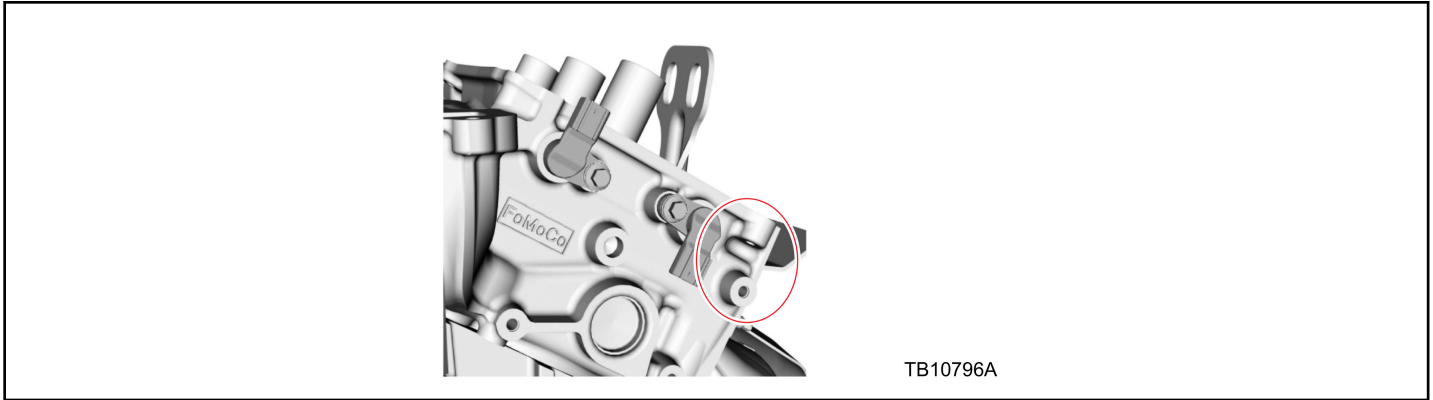

Figure 1 - Article 15-0160
15. Inspect the harness takeout for HO2S11 electrical connector C1571 for chafing or wire worn through that may have been caused by contact on the back of the cylinder head. (Figure 1)